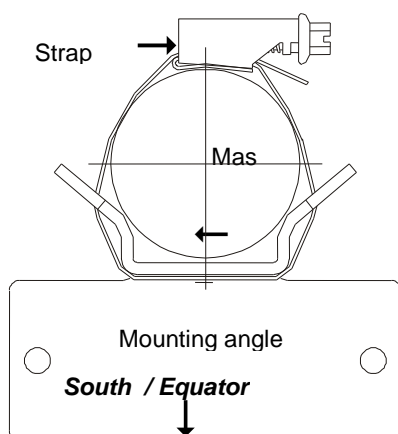

Figure 5: Strap, Mast, Mounting angle
First, the mounting angle (with or without housing) should be fastened at the mast. Because of the shading effect of the mast the angle is to be mounted at the highest possible place. Align the angle to the south acc. to **Figure 5** ($\pm 10^\circ$, Northern hemisphere), and fasten it at the top of the mast. It is advisable to have a second person holding the Laser Precipitation Monitor during the mounting. In case no second person is available, it is also possible to separate the mounting angle from the Laser Precipitation Monitor (2 nuts M6 below, 2 screws above [accessible after removing the housing cover]).
3. Put the free end of the prepared clamp around the mast and the mounting angle, and screw it on (**Figure 5**).